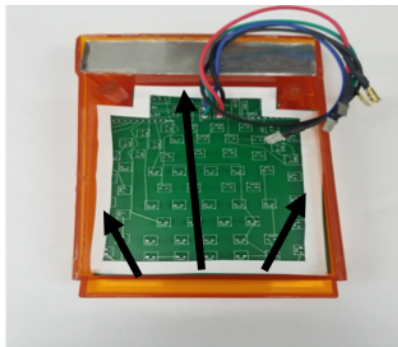

Figure 2. Apply half inch strip of Clear Silicone (or hot glue) in corners to hold boards in place.
3. Look at the back side of the Circuit Board. If there is white lettering visible on the circuit board, that LED light will go on the left tail light assy. If there is no white lettering on the back side, that LED light will go to the right side tail light assy. Apply a bead of silicone adhesive or hot melt glue a-long the edges of lens and circuit board as shown in Fig. 2.